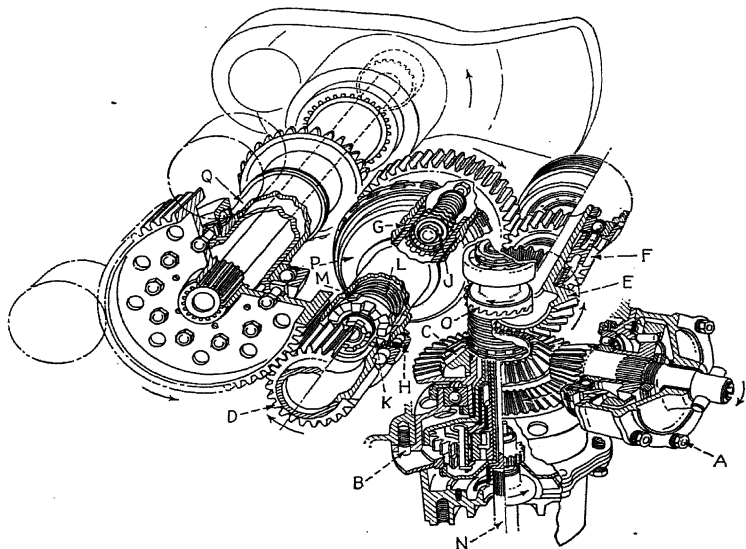

FIG. 42.—Gearing of electric starting systems.
**Electric Starting System.**—The gearing of the electric starting system is shown in Fig. 42.